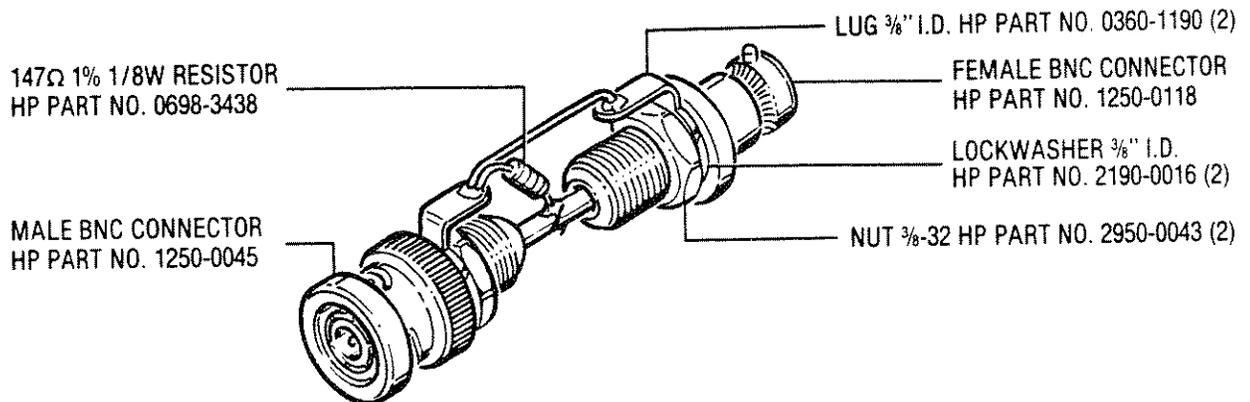

Figure 5-34. Pulse Shunt Adapter
Shunt Adapter	Fabricated Locally (see Figure 5-34)
23. Connect channel 2 to the shunt adapter (Figure 5-34) output as shown in Figure 5-35. The cable between the oscilloscope and the shunt adapter must not be longer than 24 inches.
Pulse Shunt Adapter	Fabricated Locally (see Figure 5-34)